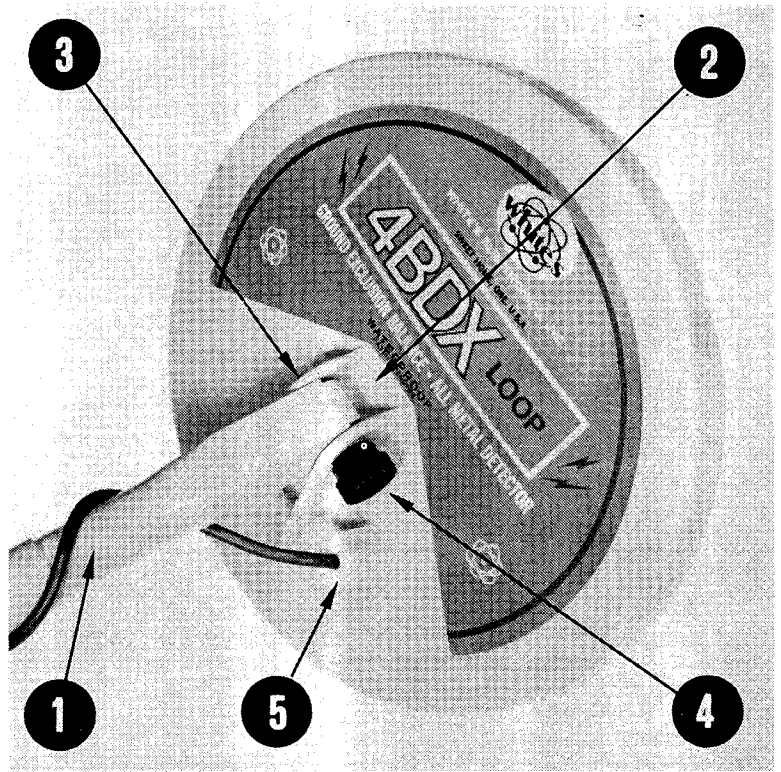

Figure 1
I. Detector Loop to Loop Rod (Figure 1):
A. Put white plastic end of Lower Loop Rod (1) between mounting flanges of Detector Loop (2); line up bolt holes.
B. Gently push Loop Rod Bolt (3) through holes; screw Thumbnut (4) onto Loop Rod Bolt (3).
C. Tighten Thumbnut (4) FINGERTIGHT.